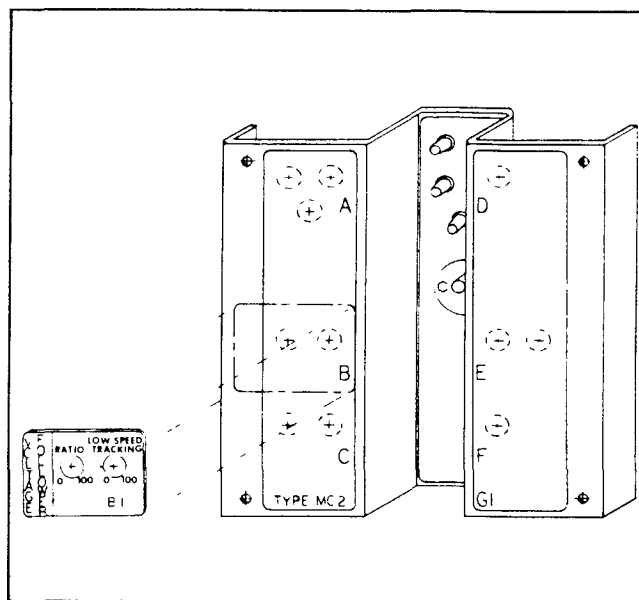

Figure 7. Identification Plate Application
- 3 Align the holes in the identification plate with the holes in the Regulator cover and press the identification plate into position. See Figure 7